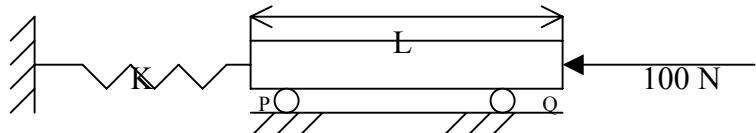

Fig.1. Spring mounted bar.
**Q1.** Consider the spring-mounted bar shown in Figure 1. Solve for displacements of points P and Q using bar elements (assume  $AE = \text{constant}$ ).